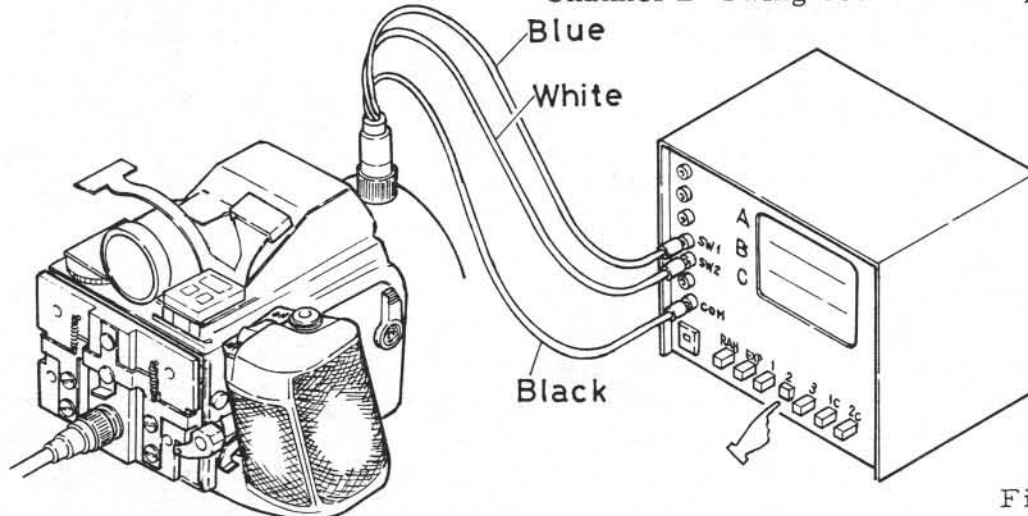

Fig. 55
- 53-1 Attach the DSST-244 and the Light Receiving Unit to the Body and connect the leads as shown in Fig. 55.
- 54-2 Mount the DSST-244 on the Body and connect its wires with the shutter tester as shown in Fig. 55.